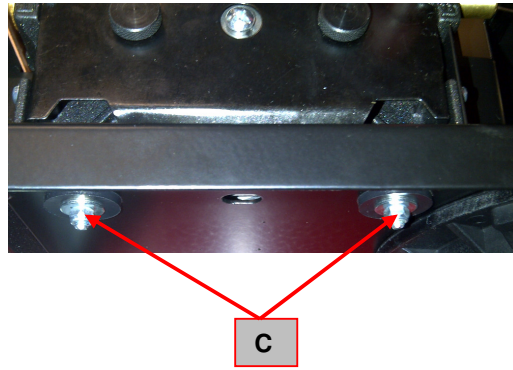

Figure 11
6. Using the 8 mm nut driver remove the 2 nuts (**C**), the related 2 screws and washers. See **Figure 11**.